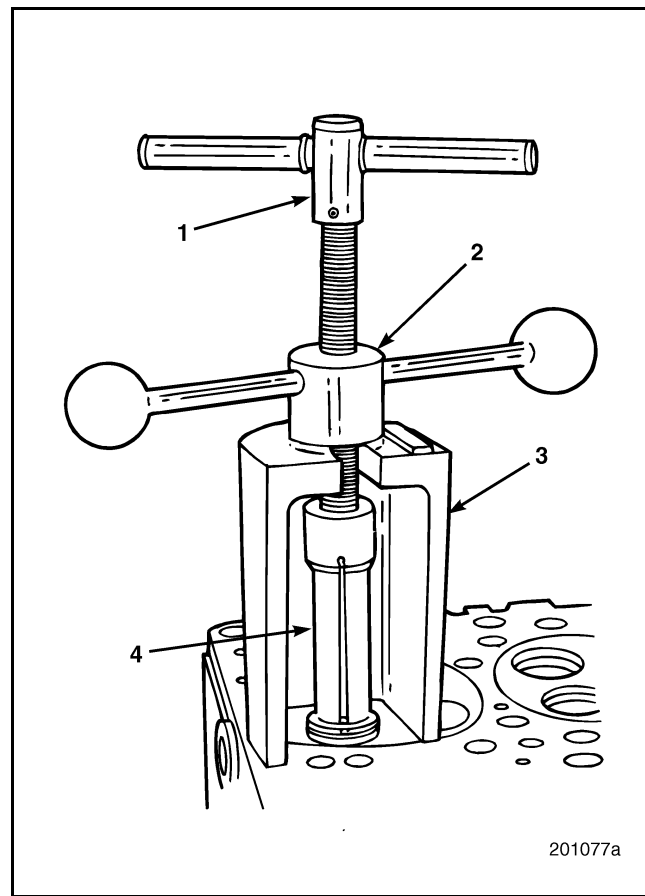

Figure 195 — Removing Valve Insert
- Position lifting bridge (3) under the crank handle (2) as shown in Figure 195. Turn the crank handle clockwise to remove the insert.
- Release insert from the collet (4) by slightly turning the T-handle (1).